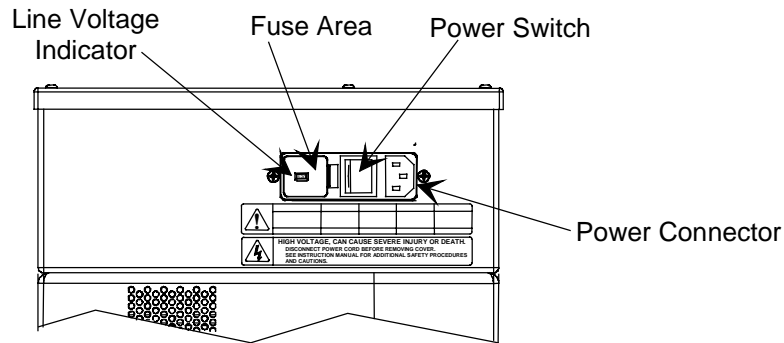

Figure 7: Components of the Power Module
1. Ensure that the power supply power switch is in the off (0) position. Refer to Figure 7 for the location of the power switch.
3. Use a small flat head screwdriver to flex the fuse holder clip so that the holder pops up, then remove the holder. Refer to Figure 7 for the location of the fuse holder. Removing the fuse holder exposes the voltage indicator.
10. Turn the power switch to the on (1) position.